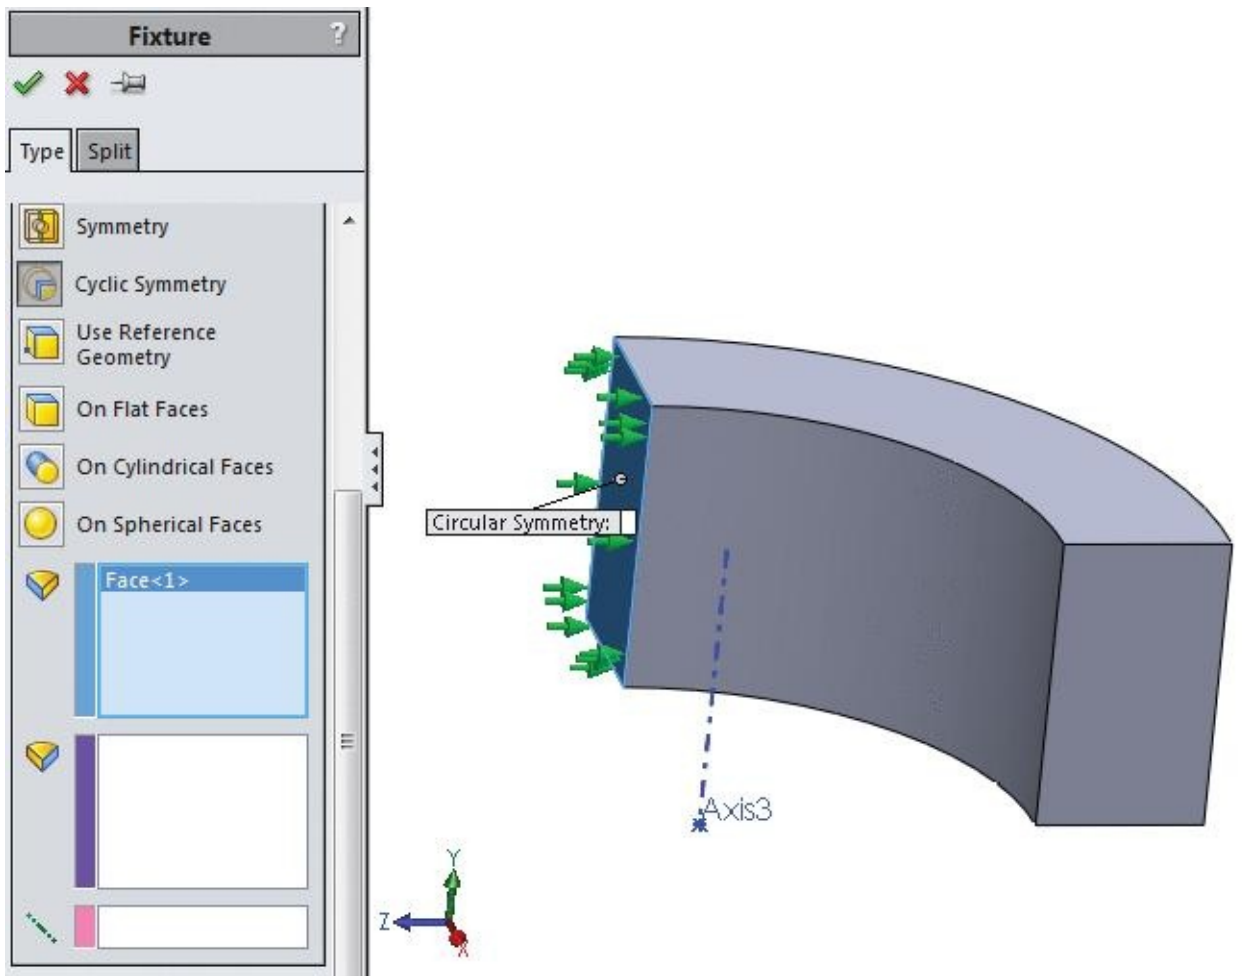

Figure-26. Face selection for cyclic symmetry
- Click on the **Cyclic Symmetry** button from the **PropertyManager**. You are asked to select starting face for circular symmetry; refer to Figure-26.